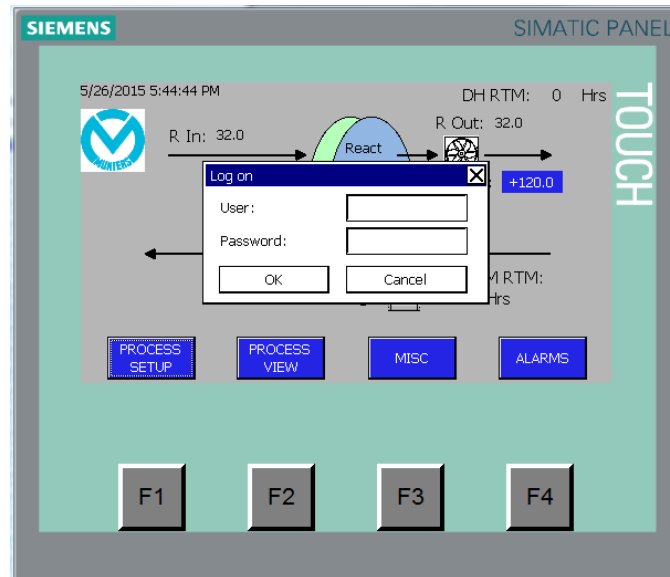

Figure 3-7
1. When trying to change one of these protected functions or settings, the system will ask for a password. See Figure 3-7.